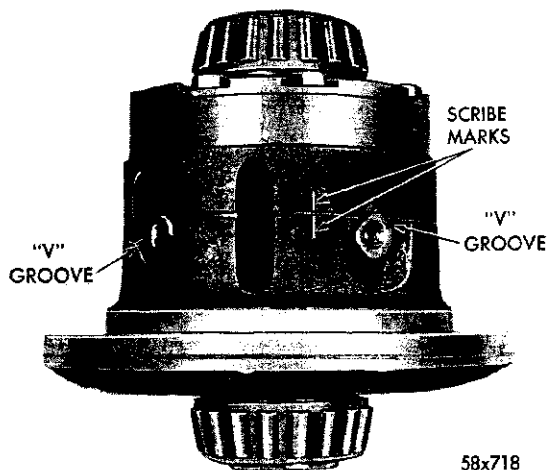
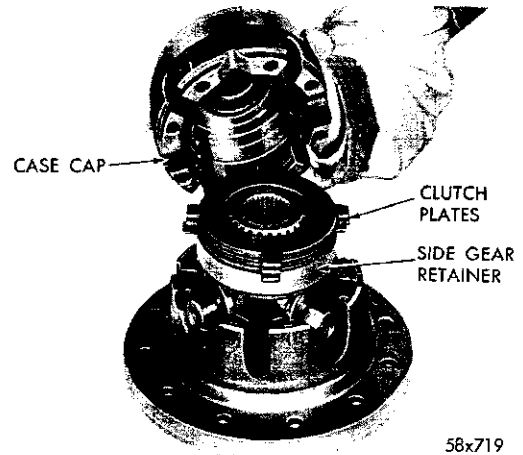
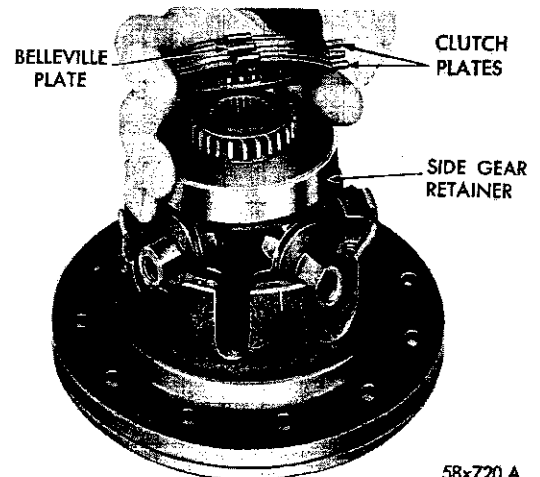

Fig. 32—Case Halves Scribed
Fig. 33—Removing or Installing Differential Case Cap
Fig. 34—Removing or Installing Clutch Plates (Cap Side)
(1) Remove the axle drive gear. Measure the run-out of the drive gear mounting flange. Replace both case halves if the runout exceeds .003 inch.
(2) Before disassembling the case halves, place scribe marks on each half to aid in aligning the case when reassembling (Fig. 32). Remove the case cap attaching bolts and remove the case cap (Fig. 33). Remove the clutch plates (Fig. 34).